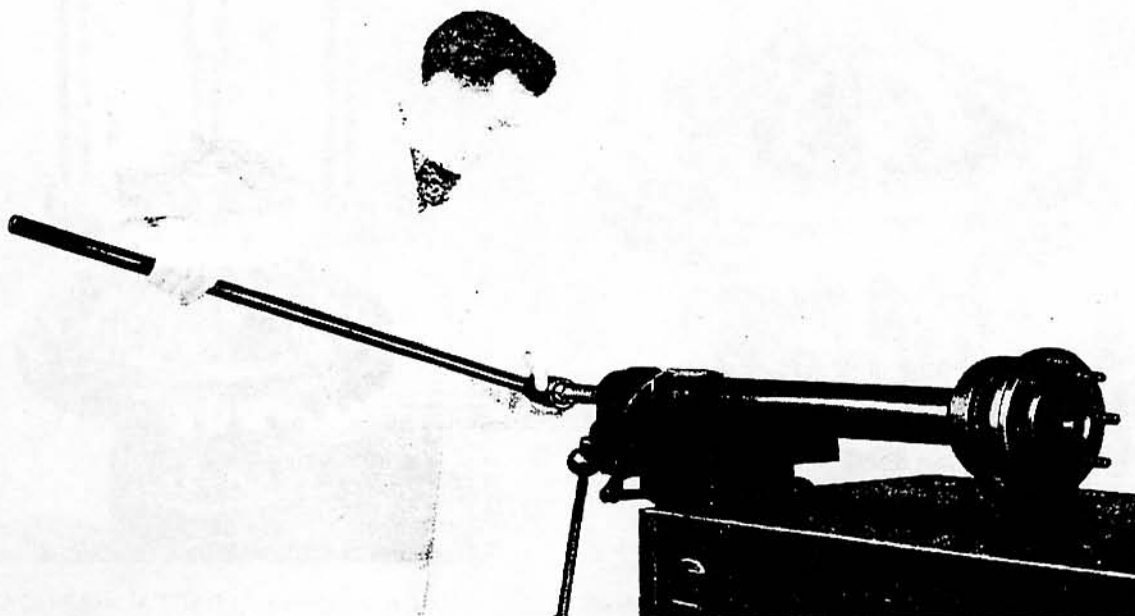

FIG. 4 WITHDRAWING REAR AXLE BEARING RETAINER
3. Fit Service Tool MF.26T with wrench MF.26A as shown in Fig. 4 to rear axle bearing retainer with rear axle studs. Apply load to tool and tap end of tool with copper faced hammer. Repeat this operation until the bearing and retainer are both free.